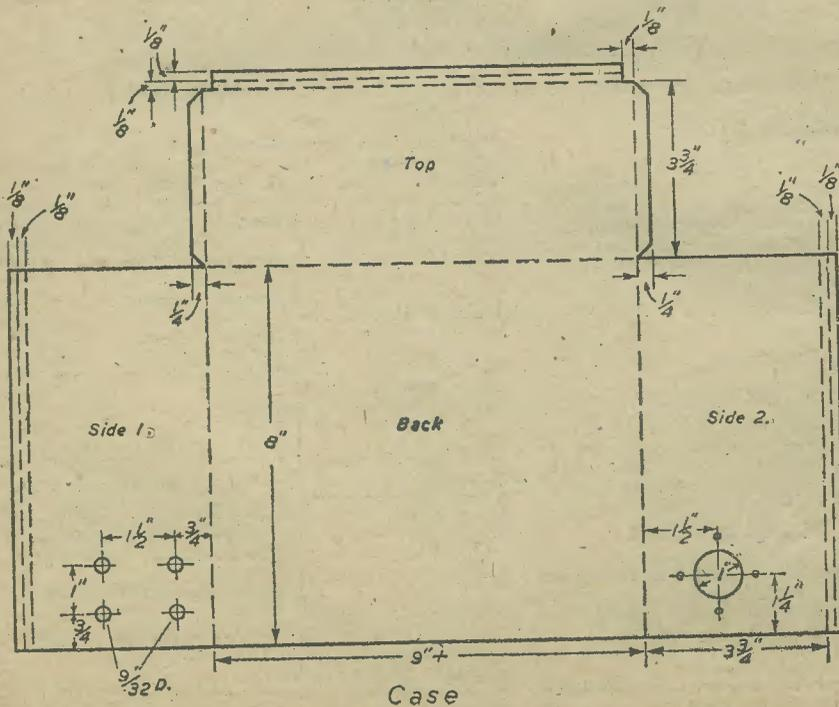

Fig. 4.—Developed plan of the metal box.
**H**AVING completed the chassis and front panel, which were described in detail in the previous issue, work can now be commenced on the main case. This involves slightly more work and patience than the chassis, but with reasonable care it is not a difficult task, and the finished article will well repay the time and care taken. The case, which for convenience in making and servicing, consists of three sides and top, is cut out in one piece according to the dimensions and shape shown in Fig. 4. Before marking out, it is advisable to check width and depth against the finished chassis, as slight variations are likely to be experienced owing to bending and to the thickness of the sheet metal used.
When the sheet has been cut to the desired shape, the folded front edges form the first bending operation, and, owing to their narrowness and the importance of getting the finished folds perfectly flat and flush with each other, this demands more care than the rest of the work. The three front cut edges have to be folded back on themselves to a depth of only  $\frac{1}{8}$  in., and then turned or bent at right-angles to the remainder of the piece. A vice is really essential for this work, as it is very necessary to avoid the formation of crinkles or the risk of distorting the metal, otherwise the finished edges will not present a uniformly flat surface to the lid. Note that the folded edge which comes at the front of the top piece, does not extend along the whole length of the case. This is shown in Fig. 4, where it will be seen that the  $\frac{1}{4}$  in. plus  $\frac{1}{8}$  in. strip is cut away at each end by  $\frac{1}{8}$  in. This is to clear the folded edges of the sides, when the case is formed. The rest of the
Regarding the drilling. Assuming that the chassis makes a good fit in the case, i.e., the folded edges of the sides of the latter clipping round the front edges of the former, the five holes shown on Fig. 4 can be marked off and drilled. While this method is quite satisfactory on paper, it may not be so perfect in practice, therefore, some may care to follow the same procedure as the writer of this article used, namely, to fit the chassis into the case, making sure that bottom edges are flush, etc., and scribe the holes on the inside of the side pieces by running the scriber round each hole. It is not a difficult matter to pick up their centres and locate them with a centre punch, the points being taken through to the outside of the case by drilling a  $\frac{1}{16}$  in. hole at each punch mark. The final drilling can then be done from the outside of the case, any slight variations in lining up with the holes in the chassis being corrected by means